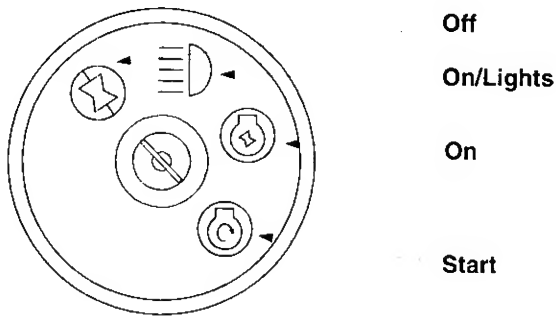

Figure 4
To start the engine, insert key into the ignition switch and turn clockwise to the **START** position. Release key to the **ON** position once engine has fired. See Figure 4. Refer to **STARTING THE ENGINE** in the **OPERATION** section of this manual for detailed starting instructions. The ignition switch is also used to operate the headlights. Refer to **OPERATING THE HEADLIGHTS** in the **OPERATION** section of this manual for detailed instructions
- Turn the key one notch counterclockwise into the On/Lights position of the ignition switch. Refer to Figure 4.